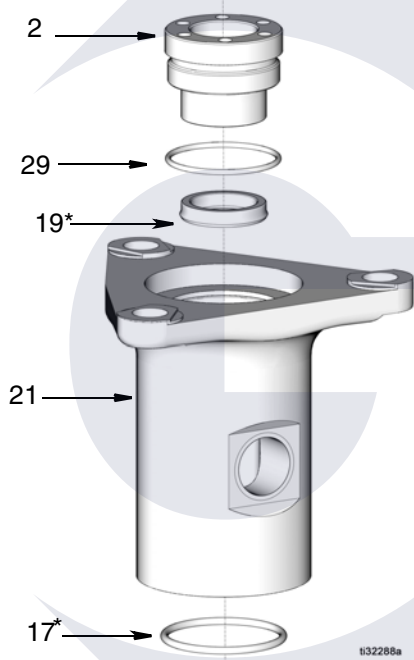

FIG. 12
1. Apply a thin layer of grease to o-ring (17\*) and throat seal (19\*) and install parts in pump base (21) (FIG. 12).
2. Apply a thin layer of grease to o-ring (29\*) and install o-ring to packing gland (2). Tighten down packing gland (2) to pump base (FIG. 12).